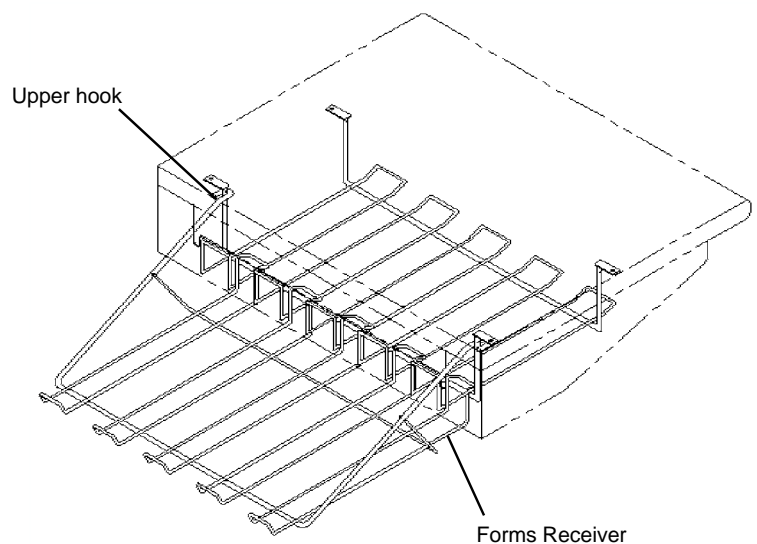

Figure 2
2. Squeeze the two upper hooks inward and pivot the Receiver Rack upward to engage the hooks onto the Feed Rack. See **Figure 2**.